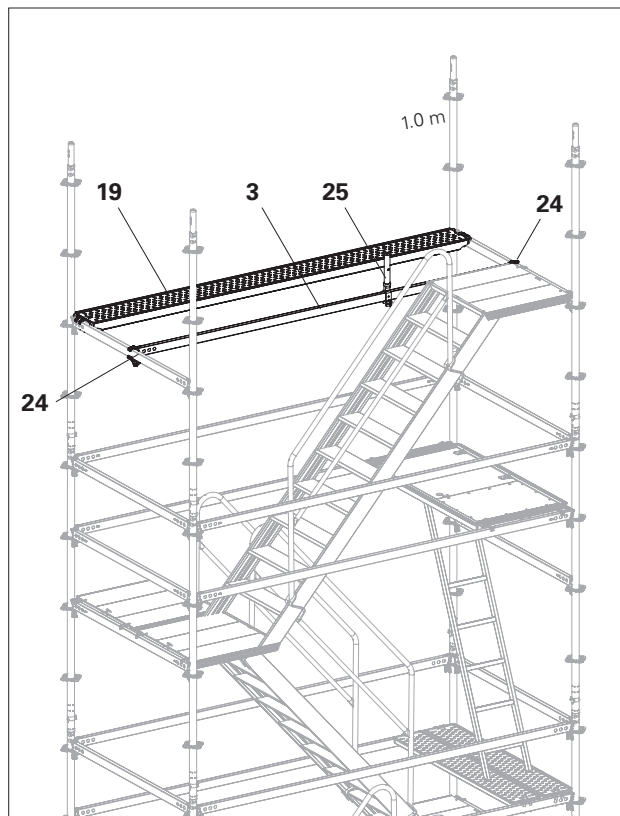

Fig. B5.02
7. Fit Steel Decks UDG-2 25 x 300 (**19**) onto the uppermost level. (Fig. B5.02)